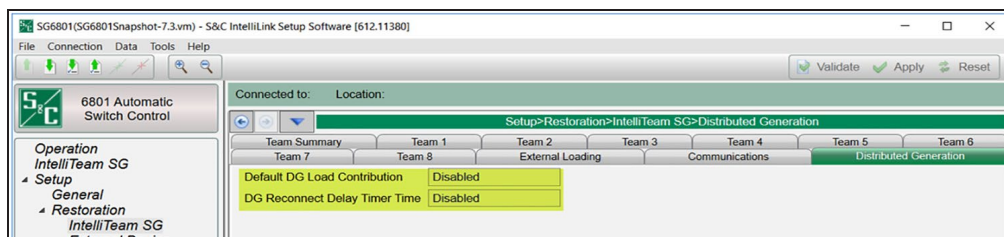

Figure 16. The Setup>Restoration>IntelliTeam SG>Distributed Generation screen.
STEP 2. Verify the new DG attributes are set correctly in the IntelliTeam system device teamed with the distributed generation device by going to the Setup>Restoration>IntelliTeam SG>Distributed Generation screen. See Figure 16 on page 18.